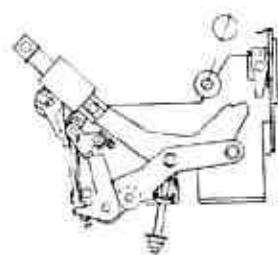

Figure 8
E. Mechanism Adjustments (Figure 8, 9 and 10)